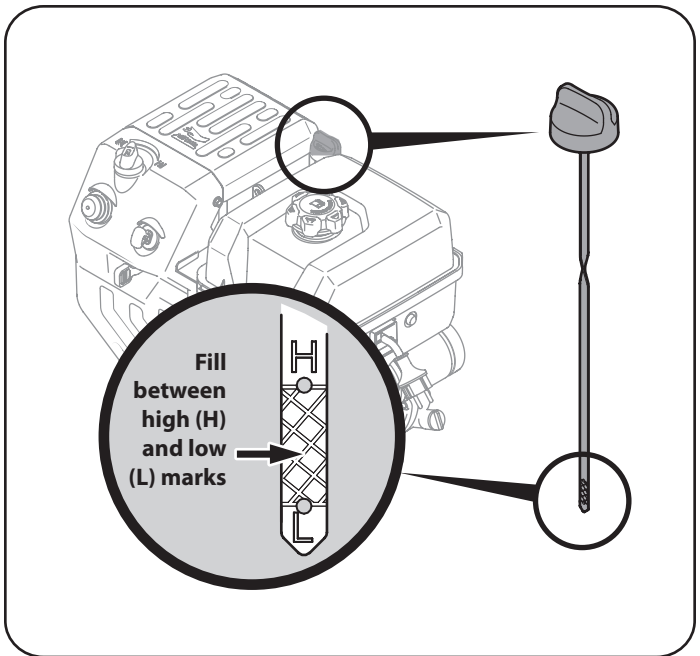

Figure 18
3. Remove the oil fill cap/dipstick. If the level is low, slowly add oil (5W-30, with a minimum classification of SF/SG) until oil level registers between high (H) and low (L). See Figure 18.